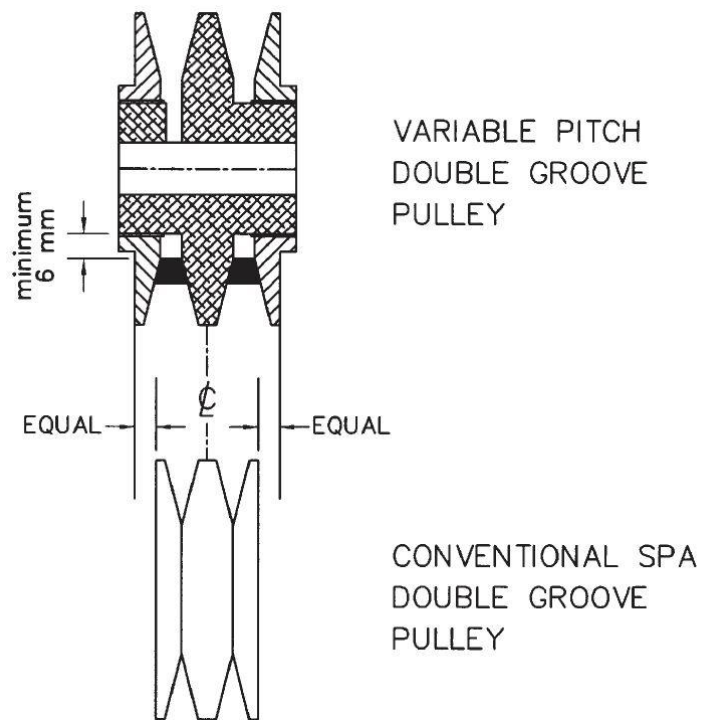

FIG. 3
8. Realign the belts using the pulley faces as a guide, refer note and figure 3 below in troubleshooting guide